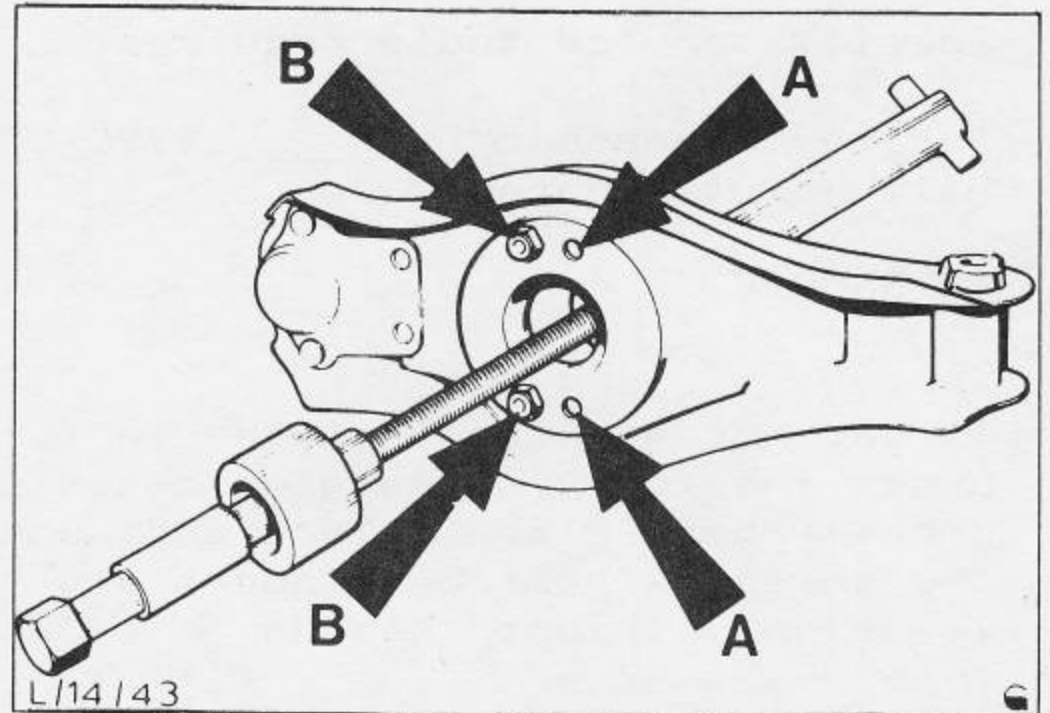

Fig.40 Spring compressor Tool and lower arm.
5. Fit the flat plate of the tool to the lower arm. Two of the four Fig.40 mounting holes in the plate are marked A. It is essential that the shock absorber mounting studs are in holes A. Loosely secure the plate with the shock absorber mounting studs and compress the spring by using a bar or socket to turn the hexagonal head of the tool.